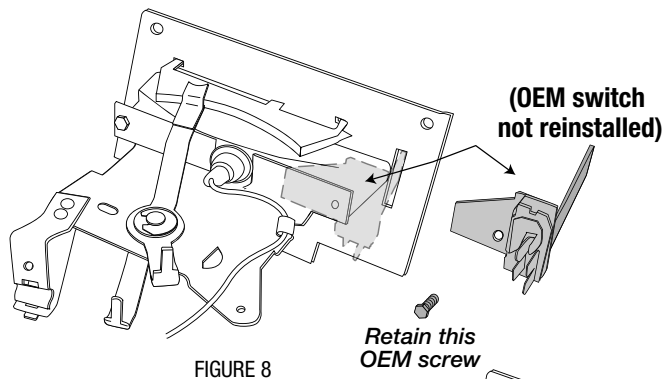

FIGURE 8
- 2) Remove the OEM blower switch knob. Retain the screw, you will use it again shortly. Remove the control cables and the original blower switch and set aside (these will not be reused, see figure 8).